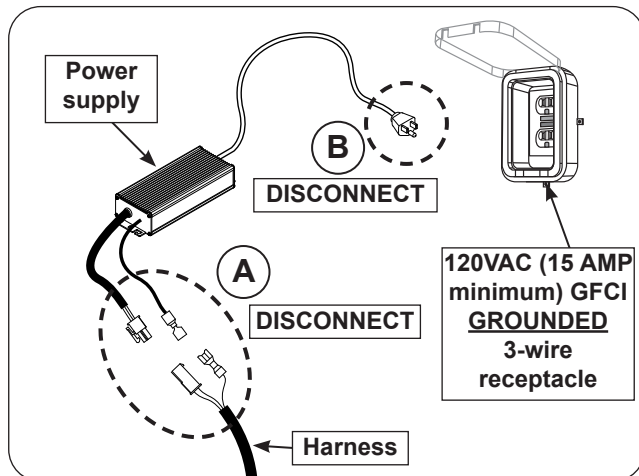

Fig. 41-1 Perform system reset
2. Disconnect the harness from the power supply (see Fig. 41-1, A).
3. Disconnect the power supply from the power source. (see Fig. 41-1, B).